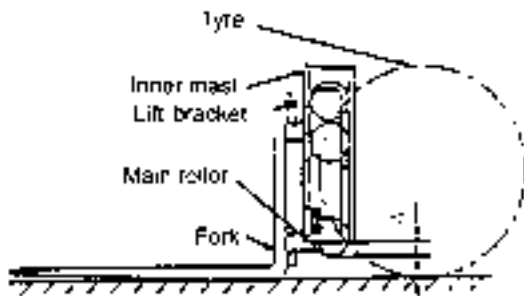

Fig. 8-6
(1) The truck should be stopped on horizontal ground. And ensure the mast vertical.
(2) Lower the forks on the ground, adjust the set nut on the upper of chains to assure the distance A between main rollers and the lift bracket. (Fig. 8-6)